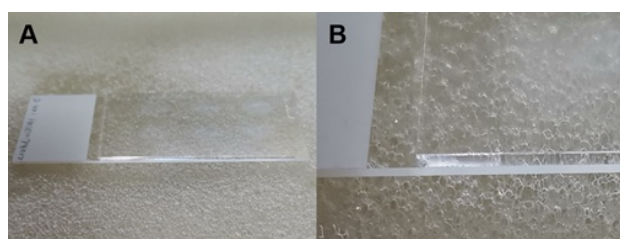

Figure 4. Hybridization process using the RNA probe.
- Use the pipette to replace the pre-hybridization solution with hybridization solution. Approximately 100ul hybridization solution is required for each slide. Place the cover glass, or else the solution will be dried during incubation (Figure 4). Incubate overnight (12-16 hours) in the hybridization oven at 65°C.